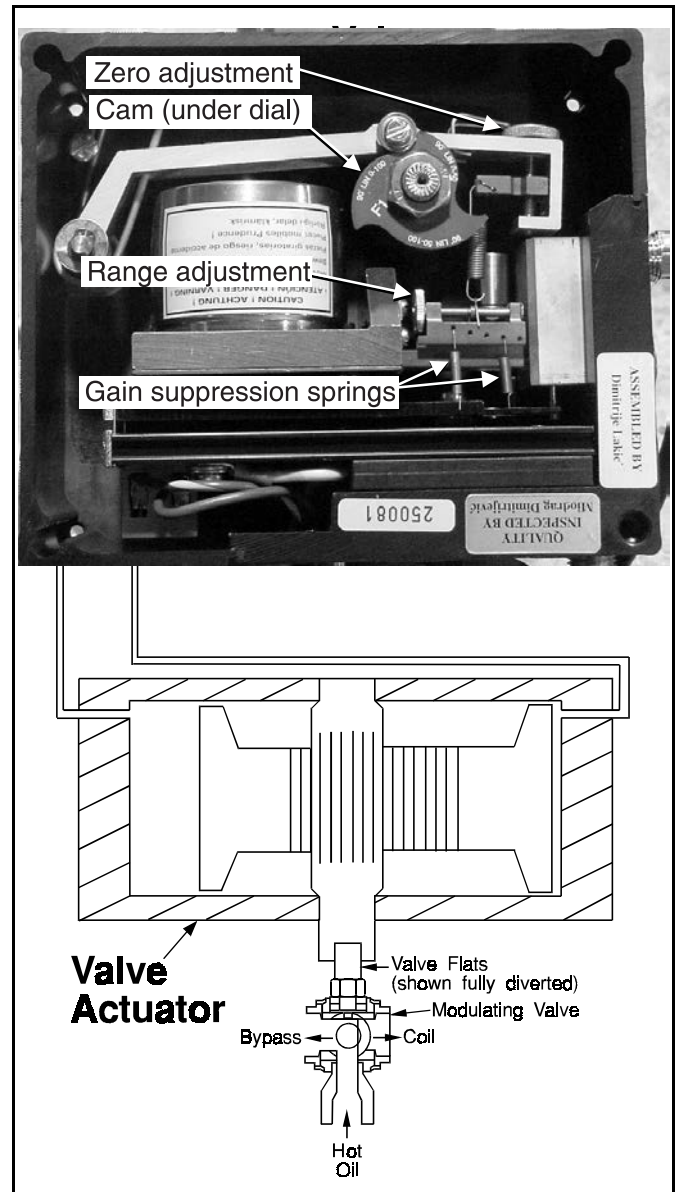
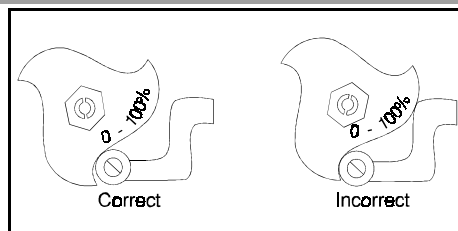
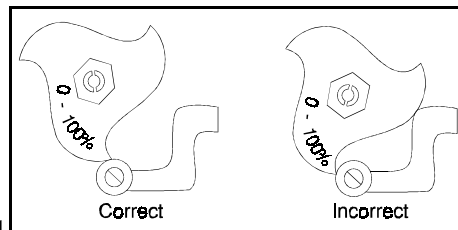

FIGURE 3 (MSSM0102BE)
FIGURE 4 (MSSM0102BE)
FIGURE 5 (MSSM0102BE)
4. Verify that the lower arm bearing rests on the portion of the cam labeled 0-100%. See FIGURE 4.
5. Check that two gain suppression springs are mounted in positions 1 and 4 (as shown in FIGURE 3).
1. Check that the lower arm ball bearing rests near the deepest part of the cam curve as shown on FIGURE 4. If not, move the zero adjustment thumbwheel (FIGURE 3) until the ball bearing is in this position. If this can not be achieved, loosen the cam retaining nut, move the cam, then use the zero adjustment thumbwheel for adjustment (the cam may rotate slightly with the nut as it is tightened, be sure to allow for this).
2. After setting, check that the modulating valve flats are aligned at a 90 degree angle to the modulating valve (FIGURE 3 and 6). This ensures no hot oil reaches the dryer heating coil. All of the hot oil is returned to the heater.
1. Check that the lower arm ball bearing rests on the highest part of the cam curve (FIGURE 5). If the ball bearing is not at the tip, turn the range adjustment (FIGURE 3).